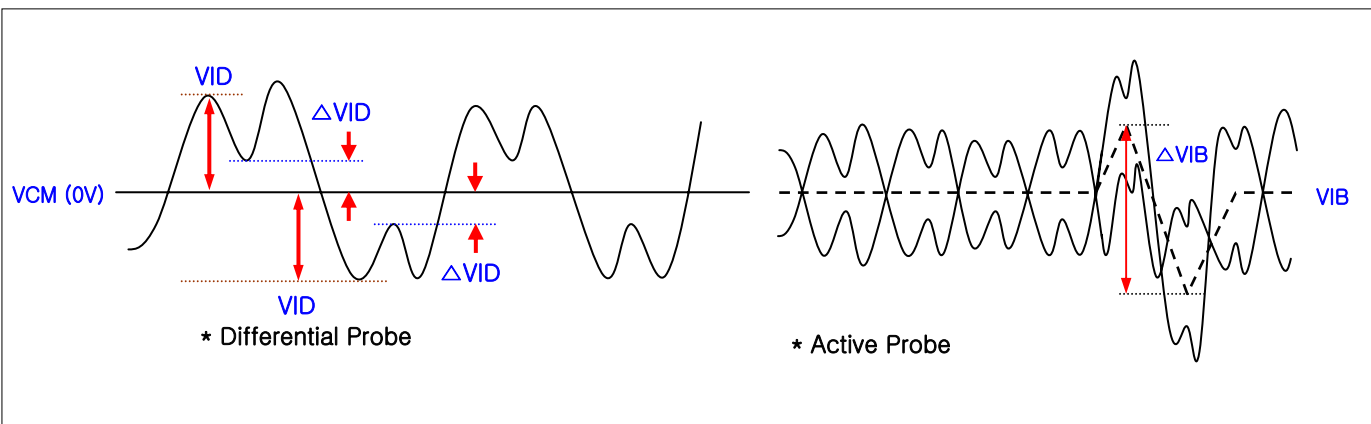

FIG. 2 Description of VID, ΔVID, VIB
5. In case of mini-LVDS signal spec, refer to Fig 2 for the more detail.